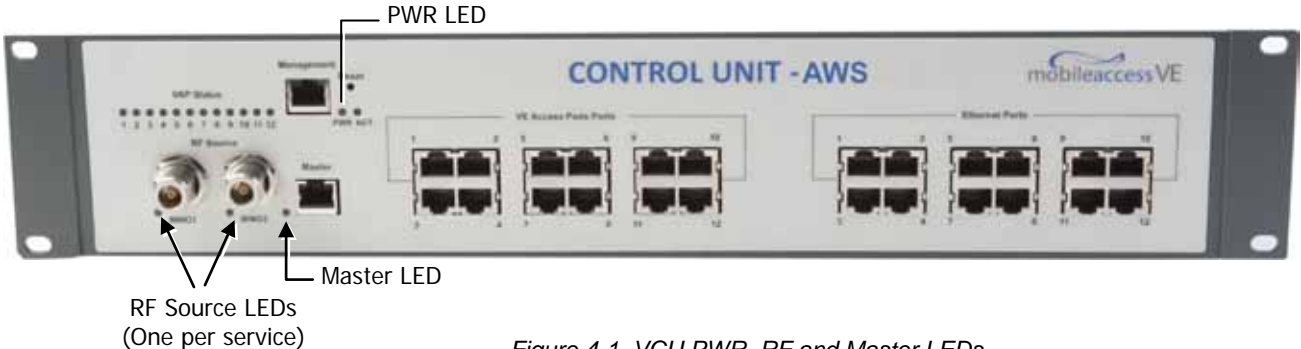

Figure 4-1. VCU PWR, RF and Master LEDs
1. Install the Slave VE Control Unit (VCU) in the Telco closet corresponding to the floor being covered. The Slave VCU can be installed in the rack using the supplied bracket. Apply power to the Slave VCUs and note that the VCU **PWR** LED is lit. Note that the unit ACT LED completes initialization (solid light) and shows a blinking green light. See Figure 4-1.